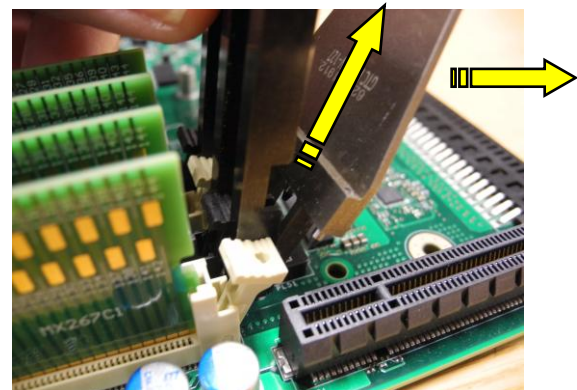

Figure 6
- Lift the extraction tool up until its pins are out of the socket latches. Then slide the tool out from the side. See Figure 6.